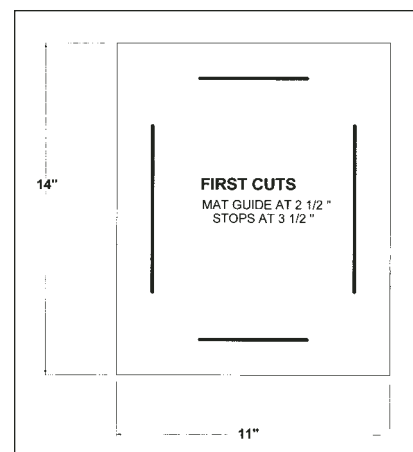

Figure 2
- Place the 11"x14" face mat against the mat guide and into the corner created by the mat stop and cut all four side cuts. The mat will look like what you see in Figure 2.